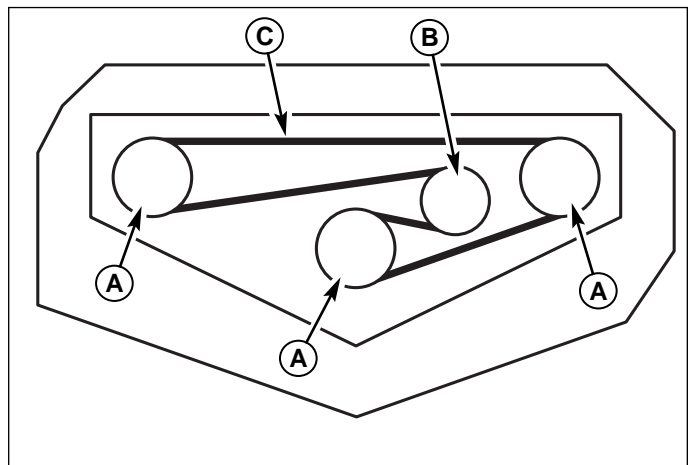

Figure 51. Spindle Drive Belt Removal
6. Remove the old belt and replace with a new one. Make sure the V-side of the belt runs in the pulley grooves (Figure 51).